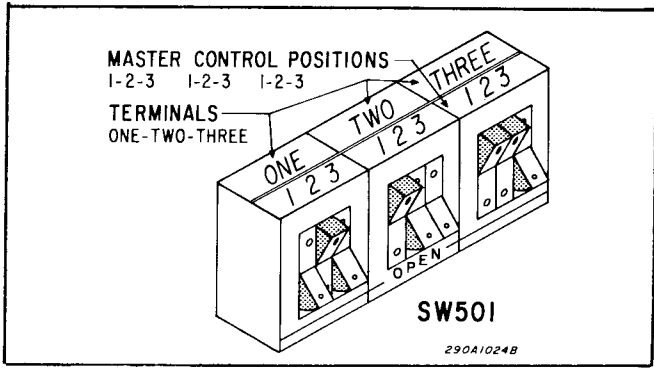

Figure 3-9. MASTER Switch Programming.
The MASTER switch is programmed by means of the nine section miniature rocker switch, SW501. As shown in figure 3-9, each section of the switch is labeled to indicate the terminal and the MASTER position that it programs. ONE, TWO, and THREE indicate the terminal programmed by each group of three switch sections. The numerals "1", "2", and "3" denote the MASTER position controlled by the individual rocker switch sections. For example, the closed contact of ONE-1 programs terminal 1 for MASTER Position 1, the ONE-2 contact programs terminal 1 for MASTER position 2; etc. Therefore, when ONE-1 is depressed, the device(s) connected to terminal 1 is (are) energized when the MASTER switch is set to position 1; when ONE-2 is depressed, the device(s) connected to terminal 2 is(are) energized in MASTER position 2; etc.
To program the example described in steps A and B of this paragraph, close switches ONE-1 and ONE-3 to program terminal 1 (flashing lights) for MASTER positions 1 and 3, respectively. Close TWO-2 and TWO-3 to program terminal 2 (rotating lights) for positions 2 and 3 respectively. Close THREE-3 to program terminal 3 (optional flasher) for MASTER position 3 (see figure 3-9).
D. Program the MASTER switch by depressing the appropriate sections of SW501 with a pencil point or similar pointed tool. As indicated in figure 3-9, the switch contacts are closed when the upper half of the rocker is pressed. Any combination of terminals can be controlled by any given MASTER switch position.